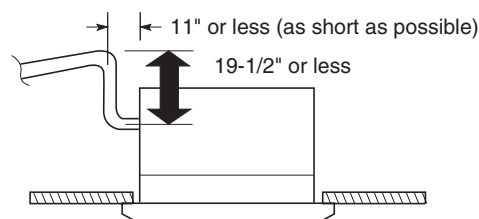

Fig. 1-20
- If it is necessary to increase the height of the drain pipe, the section directly after the connection port can be raised a maximum of 19-1/2". Do not raise it any higher than 19-1/2", as this could result in water leaks. (Fig. 1-20)